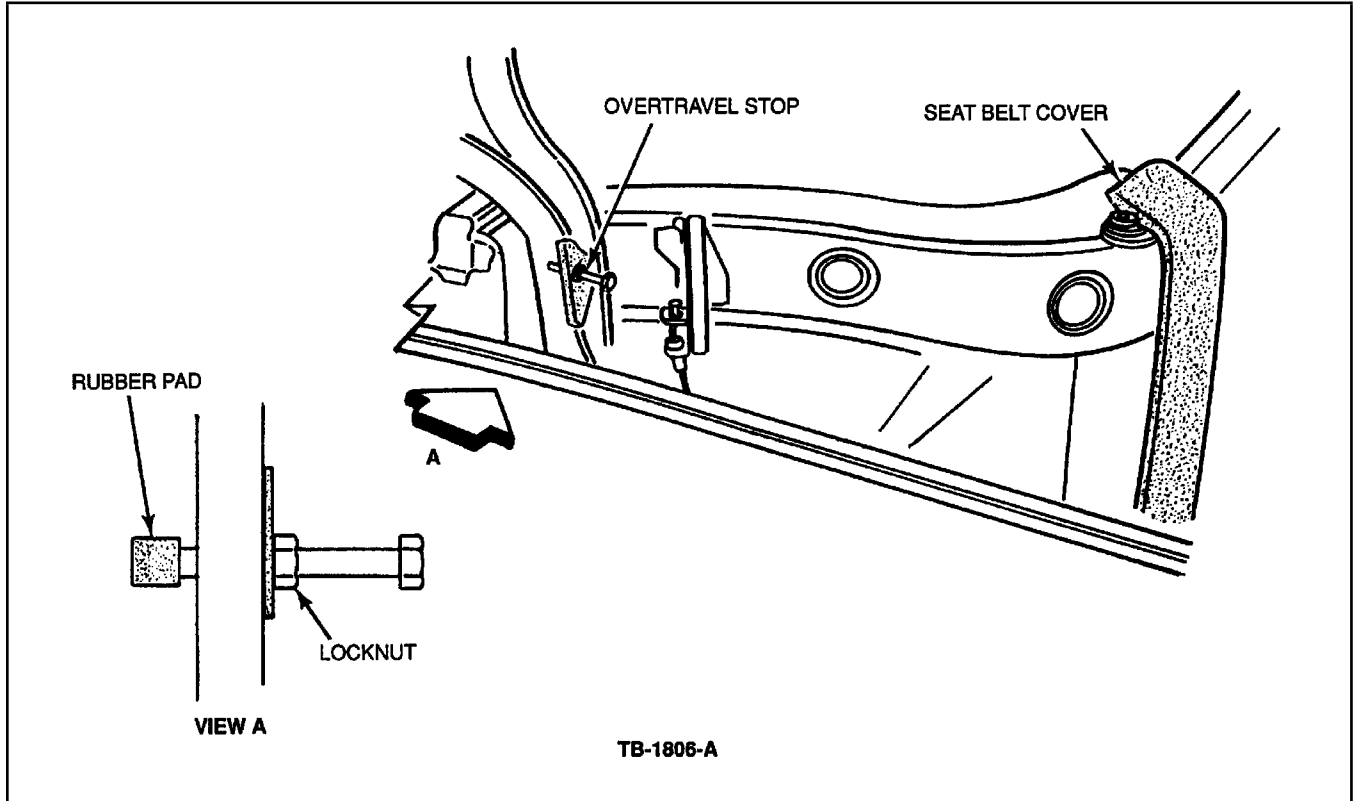

Figure 5 - Article 90-21-3
- a. Loosen the stop screw locknut, Figure 5.
- c. Tighten the stop screw until the rubber pad contacts the 'B' pillar, then tighten it one (1) full turn to compress the rubber stop.